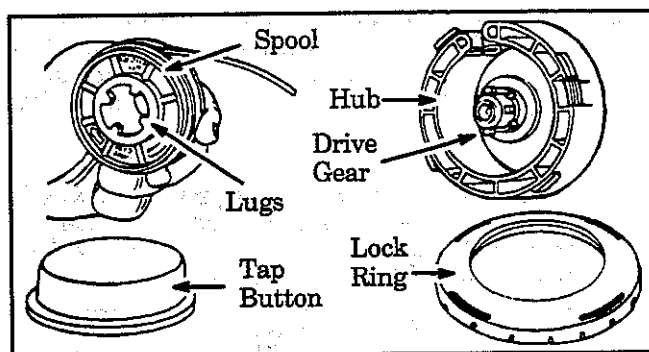

Figure 16
- Remove the lock ring, tap button, and spool. Figure 16.
- Press the spool down; turn and lock the spool lugs under the drive gear. Figures 16 & 17.